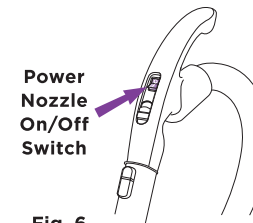

Fig. 6
- 5 Then turn the power nozzle 'On' using the switch on the flexible hose handle. (Fig. 6)